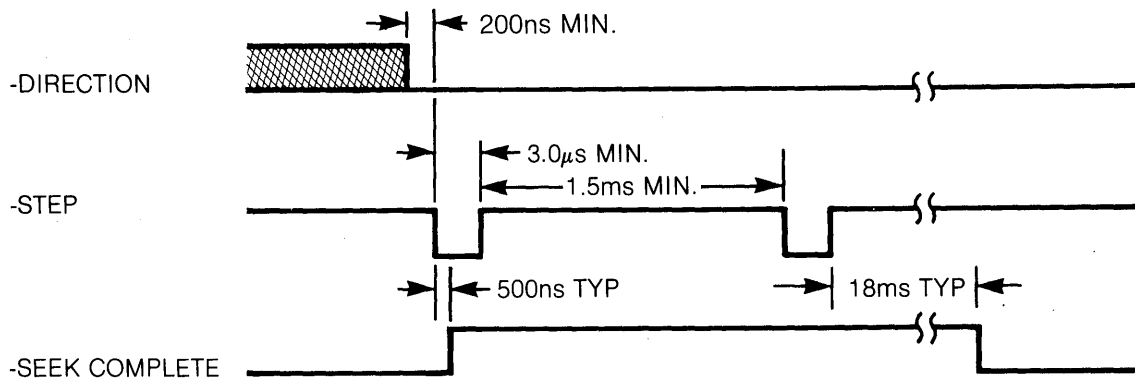

Figure 5 Normal Step Mode
- **Normal Step Mode-** In this mode, the read/write heads will move at the rate of the incoming step pulses. The minimum time between successive steps is 1.5ms, with a minimum pulse width of 3.0μs. Refer to Figure 5.